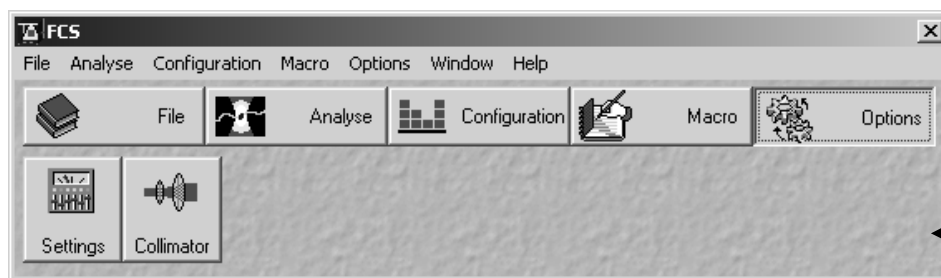

Fig. 3-81 Options menu
- To change the collimator setting, click the **Collimator** button in the **Options** toolbar subordinate of the **Main** menu (Fig. 3-81).